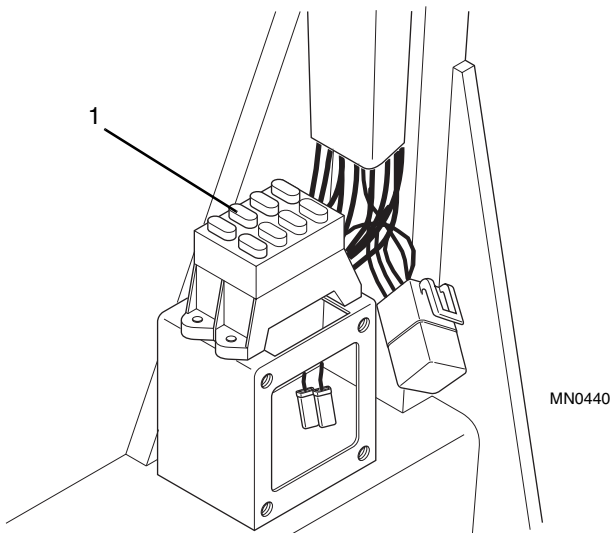

Figure 8-37 Fuse Block
1. Check the 7.5 amp fuse (Fig. 8-37, 1) in the fuse block. It may be OPEN and require replacement (Refer to Section 8.5, "Fuses").